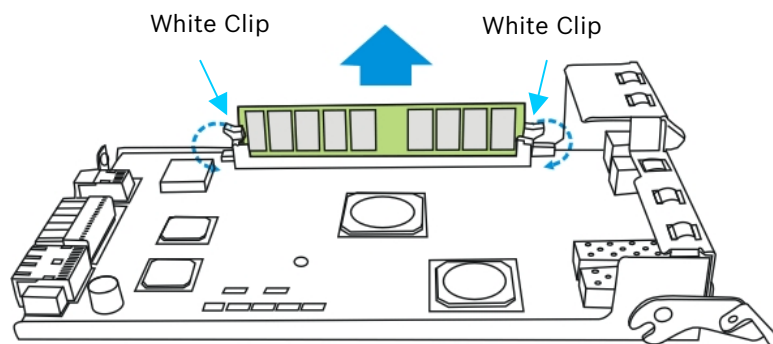

Fig. 6.6 Removing the DIMM Module
2. Remove the previously installed DIMM module from the DIMM socket. Pull down the white clips on either side of the DIMM module to a 45-degree angle to dislodge the DIMM module. (See *Figure 6.6*)